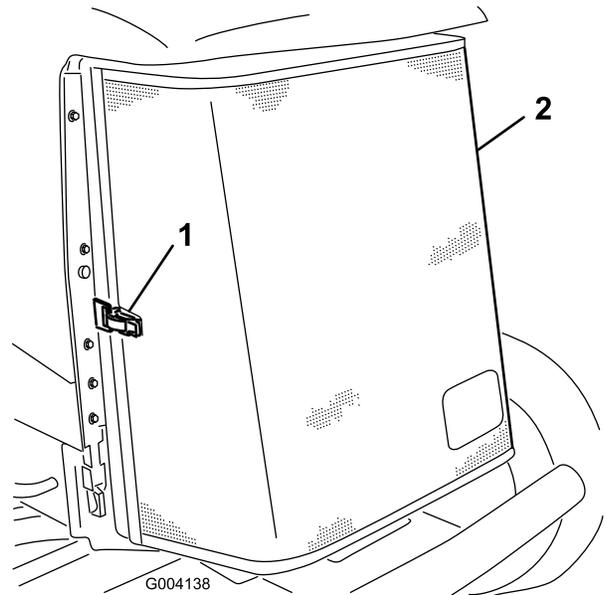

Figure 105
5. Unlatch the rear screen and pivot it open (Figure 105).